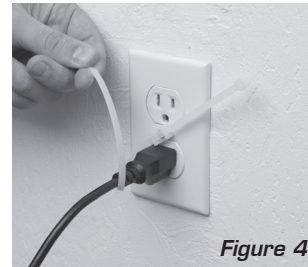

Figure 4
4. Wrap the zip tie around the power cord as shown in Figure 4.